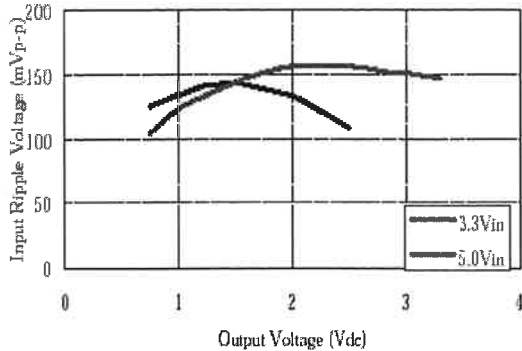

Figure 6 Input voltage ripple VS Output voltage
1. 2 $\times$ 100 $\mu$ F tantalum // 47 $\mu$ F ceramic ----- Figure 6